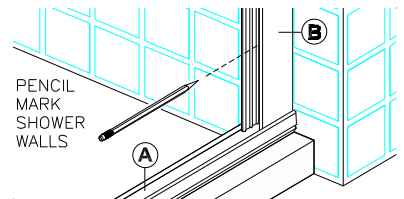
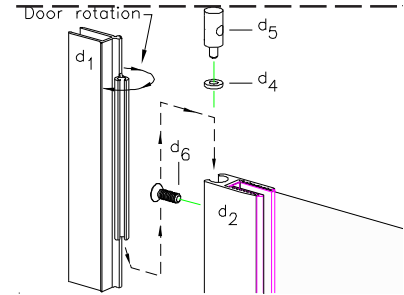
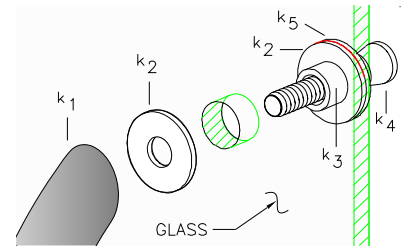

figure 2
figure 3
figure 4
3. Place Wall Jambs (B) on to ends of Sill (A) and up against shower walls as shown in figure 2. Plumb the Jambs, then pencil mark their installation holes locations on shower walls (3 per jamb). Remove Wall Jambs. Use a 3/16" drill bit (designed to drill through material you are working with) to drill 1-1/4" deep installation holes in locations previously marked. Insert Plastic Screw Anchors (I) into holes.
4. Reposition Wall Jambs (B) as before and secure Jambs to walls using the six(6) 1-1/4" Installation Screws (H) provided (3 per jamb).
5. Decide from which side your Door Assembly (D) is to hinge (left or right, your choice). Install Glazing Vinyl (d7) onto hinge side of glass as shown in the exploded view. Begin glazing at top of glass edge and work down.
7. Insert the Hinge Post (d1) into the Hinge Stile (d2) as shown in figure 3. Take a minute to check the door rotation (*is it the correct rotation for your configuration*)? If it is not, then make it so. When satisfied, proceed.
8. Insert Hinge Washer (d4) and Hinge Bushing (d5) into Hinge Stile (d2) as shown in figure 3. Rotate Hinge Post (d1) out of the way and secure the bushing with one(1) Door Assembly Screw (d6) as shown in figure. Repeat step for opposite end.
10. Insert Strike Post (C) into appropriate Wall Jamb. Measure from bottom of Strike Post (where it sits on Sill) to the bottom of the Door Strike. Trim bottom Seal Vinyl (F) to a **3/4" more** than measurement obtained. Insert trimmed Seal Vinyl into Strike Post as indicated in exploded view, sheet - 1. Next insert Magnet into Strike Post. Finally insert remaining Vinyl Seal (F) and trim top excess as required. Snip Seal Vinyl as shown on sheet - 1, Detail '1 - A'.
11. Adjust Door Assembly and Strike Post along curb as required. Note: Bottom of Door Assembly must always remain parallel to Sill in order for door to operate properly. When satisfied with door operation, secure Hinge Post and Strike Post to the Wall Jambs using 638PHPT Adjustment Screws (J), see exploded view - sheet 1.
12. If Jamb Caps (L) were purchased, install at both the hinge side and the strike side of the door as shown in exploded view - sheet 1. Trim the Jamb Caps to required lengths before installing.
13. Install pull Handles (K) by backing out the two Set Screws (k6) and pulling the Handles (k1) apart. Unscrew the two Screw Posts (k4) to disassemble bushings and washers. Slip a metal Washer (k5), a plastic Washer (k2) and Sleeve Bushing (k3) onto the Screw Post (k4) as shown in Figure 4. Insert it into the glass hole as shown and attach the outside oval pull Handle, (do not forget to attach plastic washer). Hand tighten the screw and repeat step for bottom portion. When done . . . carefully tighten down assembly with a screw driver. Take inside Handle (see explode view sheet 1) and insert it onto the Screw Post heads as shown. Finish oval pull Handle installation by tightening down the two set screws.